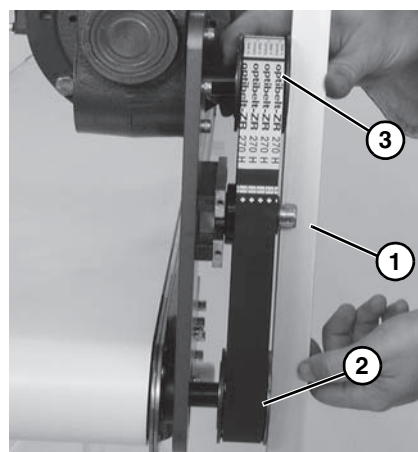

Figure 8
7. Using a straight edge (**Figure 8, item 1**), align driven pulley (**Figure 8, item 2**) with drive pulley (**Figure 8, item 3**).